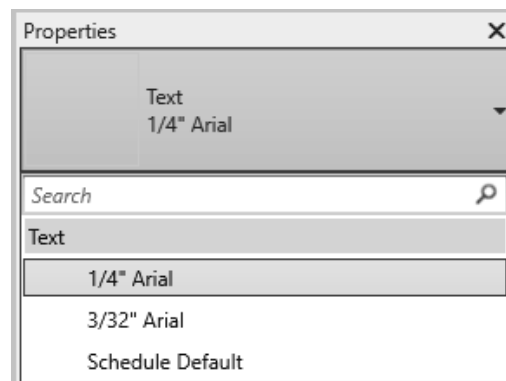

Figure 1–46
2. Expand the list in the Type Selector. Only a few text types are available, as shown in Figure 1–46.